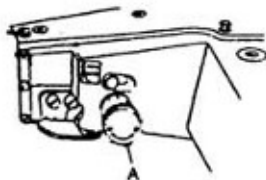

Fig. 9
H. Feed Dog Adjustment (Fig. 9)